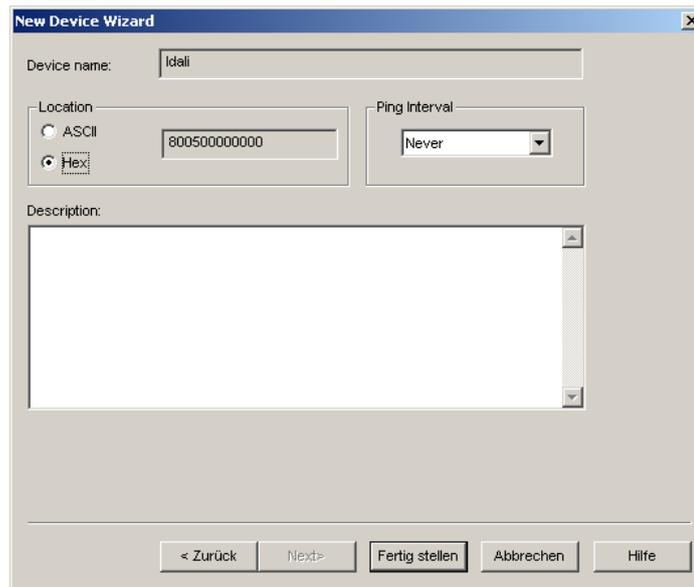

Figure 87: Leave defaults for Location.
5. The following dialog shown in Figure 87 appears, click **Next**.